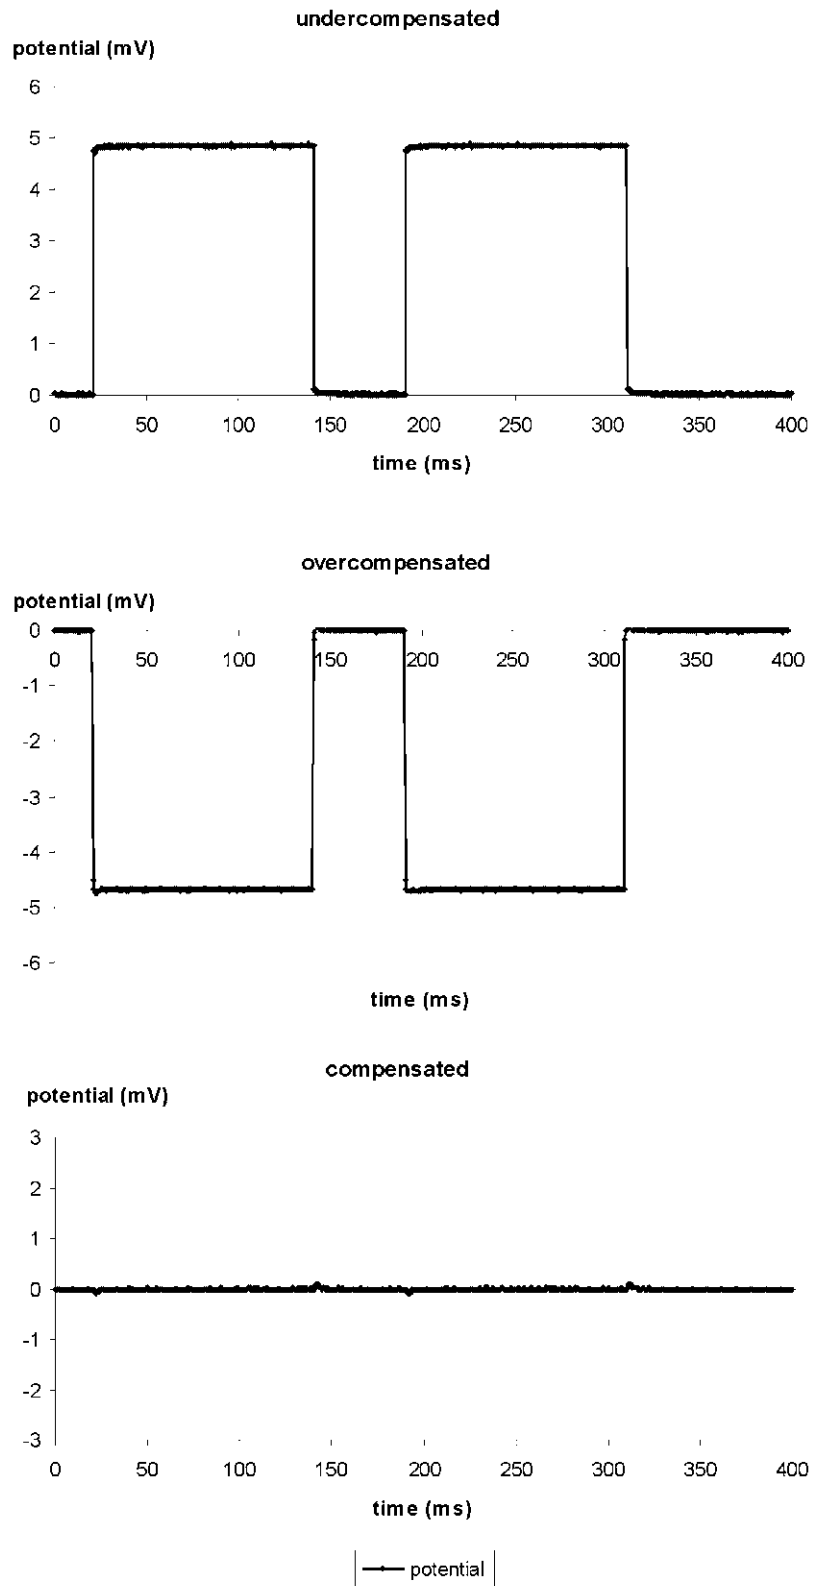

Figure 9: Tuning of the BRIDGE BALANCE using 100 MΩ resistor
With the cell model connected or the electrode in the bath the BRIDGE BALANCE control is turned on clockwise until there is no artifact on the POTENTIAL OUTPUT (see Figure 9).
- Watch the POTENTIAL OUTPUT at the oscilloscope and adjust the BRIDGE BALANCE as shown in Figure 9 using the BRIDGE BALANCE potentiometer (#27, Figure 1). After adjustment you should see a straight voltage trace without artifacts caused by the potential drop at R_{EL} .
Figure 9 illustrates the BRIDGE BALANCE procedure using a $100 M\Omega$ resistor that represents the electrode. The current stimuli were generated using the gated stimulus unit gated by two TTL pulses. The amplitude was set to 0.5 nA. In the upper diagram the bridge is slightly undercompensated and in the diagram in the middle it is slightly overcompensated. The lower diagram shows a well balanced bridge (compensated).